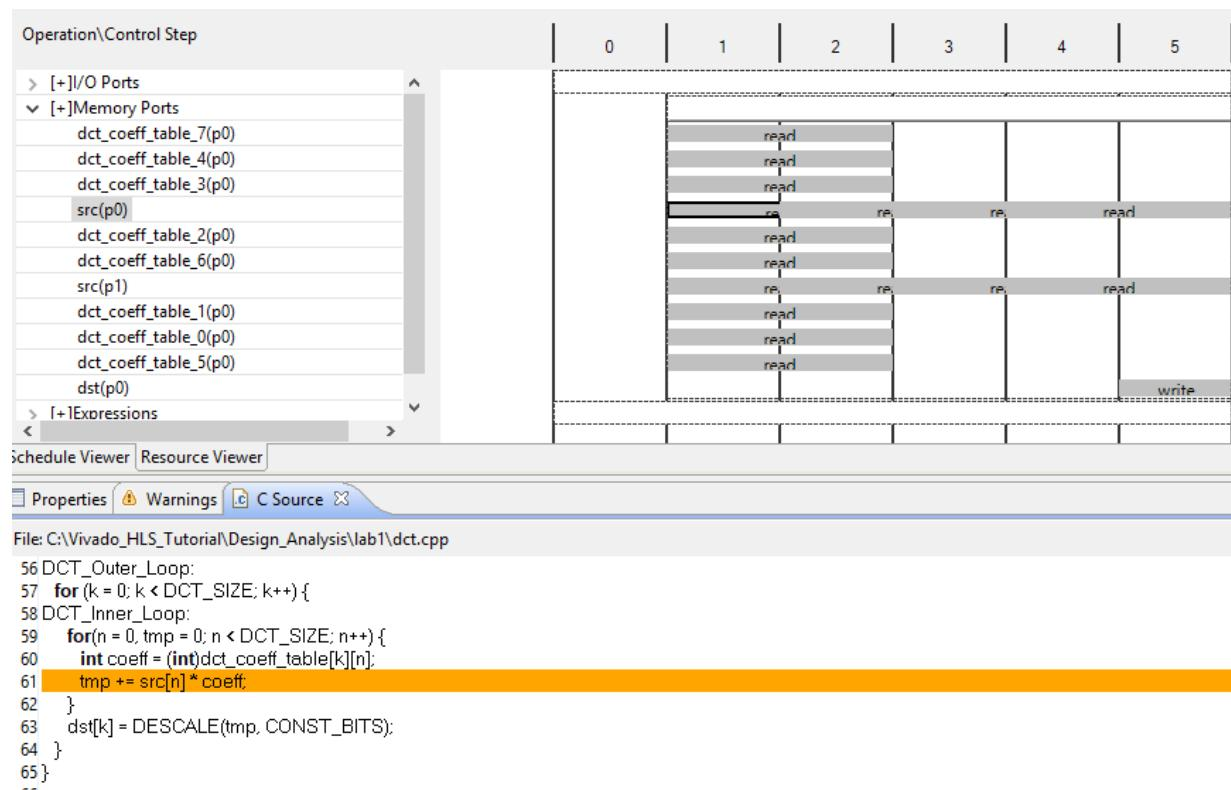

Figure 6-24: Memory Resource SRC and Source Code
17. Right-click and select **Goto Source** to see the view shown in Figure 6-24.
Figure 6-24 shows this read on the `src` variable is from the read operation inside loop `DCT_Inner_Loop`. This loop was automatically unrolled when `DCT_Outer_Loop` was pipelined and all operations in this loop can occur in parallel (if data dependencies allow).
The eight reads are being forced to occur over multiple cycles because the array `src` is implemented as a block RAM in the RTL and a block RAM can only allow two reads (maximum) in any one clock cycle. In Figure 6-24, the read operations take 2 clock cycles: a cycle to generate the address for the block RAM and a cycle to read the data. Only the launch (address generation cycle) is shown because it overlaps with the operation in the next clock cycle.